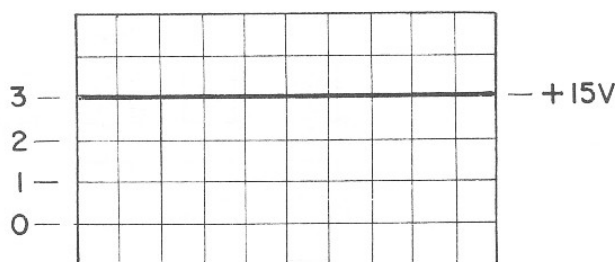

Fig. 6B - Three Division Deflection
6. Trace should deflect three divisions in a vertical direction [3 division x 5 volts = 15 volts]. (See Fig. 6B.)